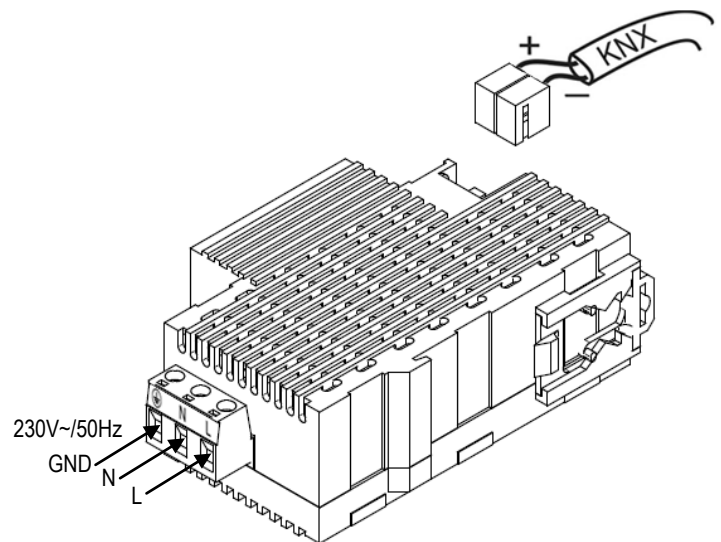

Figure 2: ZPS160MPA installation and connection
- Main Power must be connected to L, N and ground terminals, in accordance with the schematic represented in figure 2.
- The coil integrated KNX Output must be connected through a standard KNX connector as shown in the figure 2.